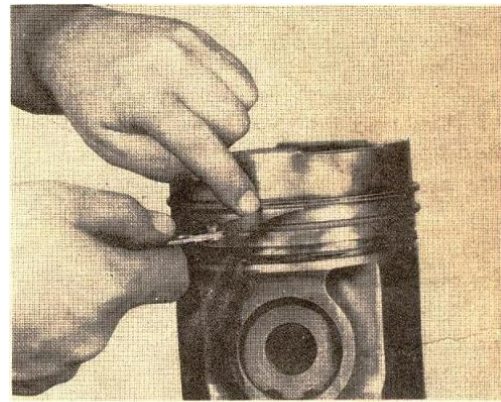

Fig. 1-34. Check the piston ring groove for wear
1. Hold the ring in the groove, even with the side of piston, and insert a 0.006" (0.15 mm) feeler gauge. Fig. 1-34.